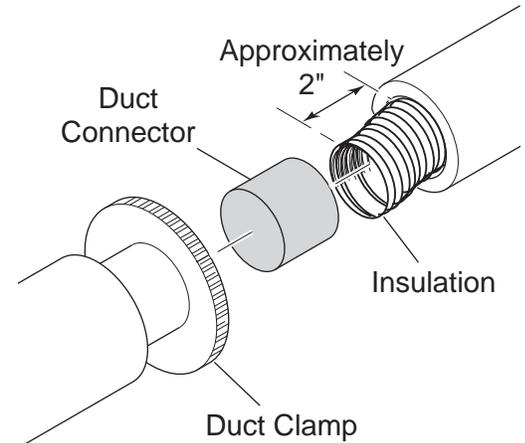

Figure 29 - Installing Duct Connector 403
7. If the duct is the insulated type, push the insulation back from one end of the duct approximately 2". See *Figure 29*.